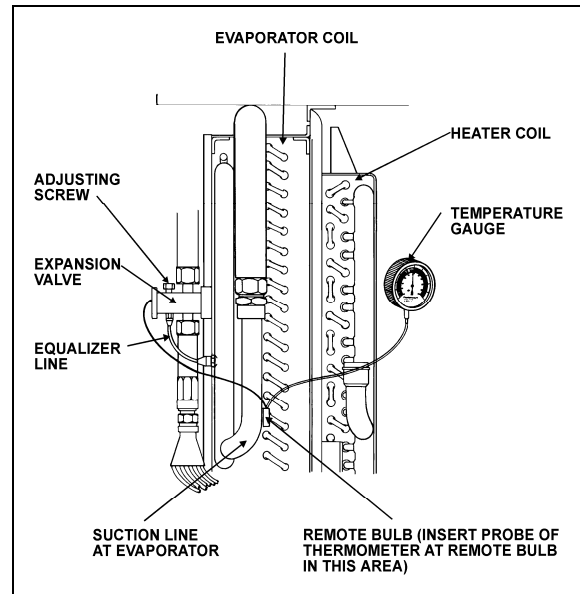

FIGURE 34: SUPERHEAT ADJUSTMENT INSTALLATION²²⁰⁴⁶
The starting method of adjusting the superheat is to unscrew completely the main evaporator expansion valve adjusting screw, then screw in 13 turns clockwise for 134A (Fig. 34).
3. Install a remote reading thermometer to the evaporator outlet line near the existing remote bulb (Fig. 34).